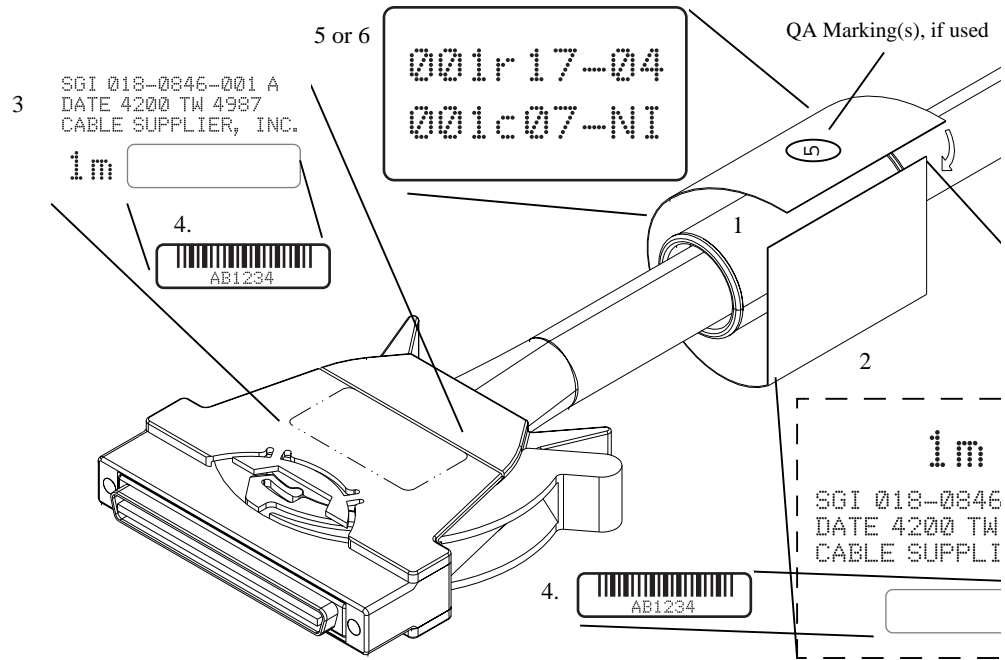

Figure 2-1 Cable Label Locations and Content *(Label drawing needs updating)*
Figure 2-1 shows the different labels for DNET cables. Each cable has a cable collar that an ID label adheres to. The collar rotates so the label is easily visible. Four colors of labels identify the cable lengths (red, green, yellow, blue) and includes a place to adhere a source/destination label. The source/destination label includes the rack number (001), the brick type and slot location (r17), and the port in which it connects (04). The